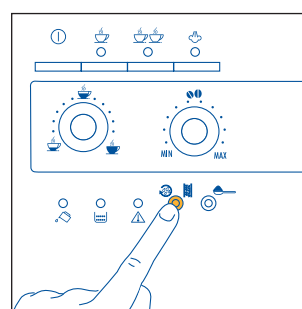

Fig. 14
1) If, when the machine has just been turned on, a short cup of coffee is required (less than 60cc), use the hot rinsing water to pre-heat the cups (see the suggestion in par. 4.3, point 5). 1) If, when the machine has just been turned on, a short cup of coffee is required (less than 60cc), use the hot rinsing water to pre-heat the cups (see the suggestion in par. 4.3, point 5). If, on the other hand, more than 2/3 minutes have elapsed since the last coffee was made, before preparing another coffee the infuser must be pre-heated, pressing the   button (Fig. 14).